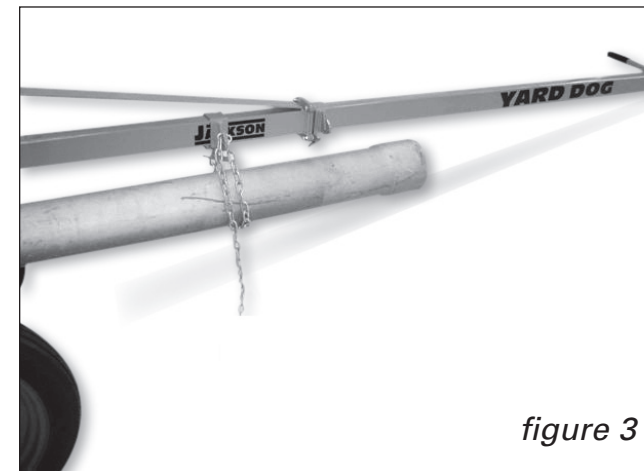

figure 3
3. With front chain secure, lower the handle end of the pipe hauler to the ground. Sling the second chain under the pipe. Pull chain tight and attach to hook on opposite side of the slide block as shown in Figure 3 below and Figure 1 on Page 4.